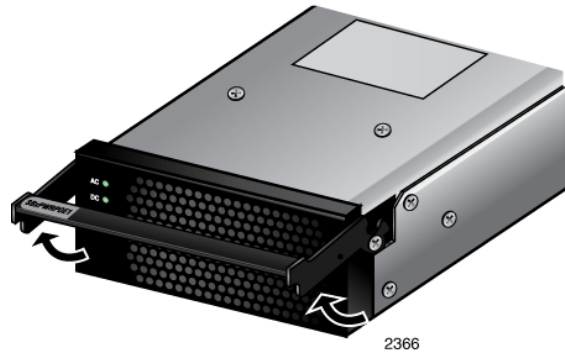

Figure 64. Unlocking the Handle on the AT-SBxPWRPOE1 Power Supply
4. Raise the locking handle on the AT-SBxPWRPOE1 Power Supply, as shown Figure 64 on page 140.